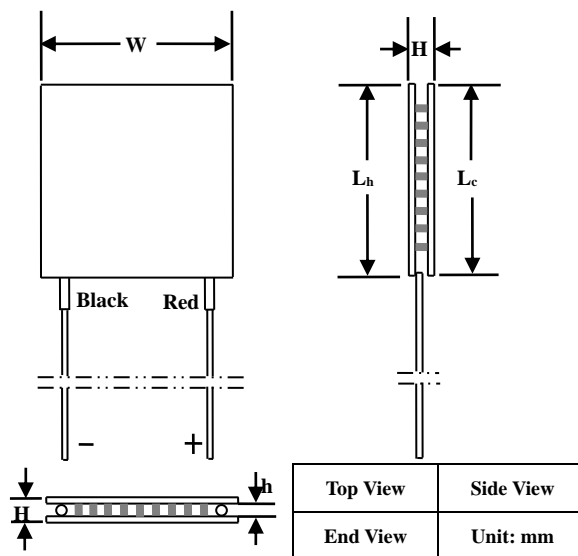

Figure 21. Mechanical Dimensions of Non-sealed ATE1-TCHE-32
The ATE1-TCHE-32 TECs come with 2 insulated lead wires. The positive wire is coated red, and the negative wire is coated black. The mechanical dimensions are shown in Figure 21 and Table 2.
**Note:** As Figure 21 shows, when the red lead wire is on the right, then the top surface is the cold side of the TEC.